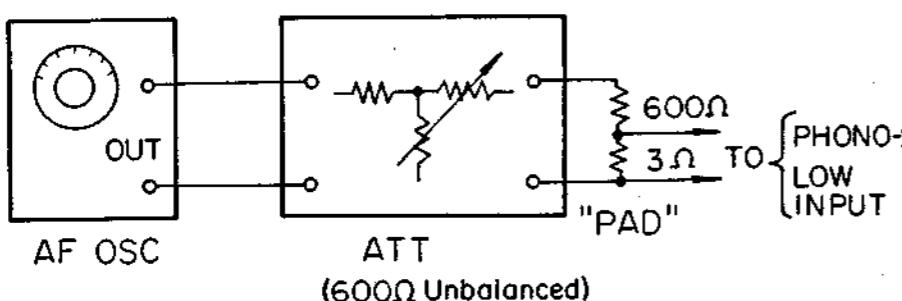

Fig. 3-1. PHONO-2 (LOW) Sensitivity Measurement Test Set-up
- When measuring the sensitivity of the PHONO-2 LOW input, insert a pad with a loss of 43 dB between the attenuator and input terminal. See Fig. 3-1. The input sensitivity may be regarded as the reading on the attenuator plus the pad loss.
(8) PHONO-2 Input (LOW)
Step 3: Adjust the attenuator to obtain a 1 volt reading on the VTVM. The input sensitivity is the attenuator reading plus the pad loss. See Fig. 3-1.
(9) TAPE HEAD Input
(10) MIC Input